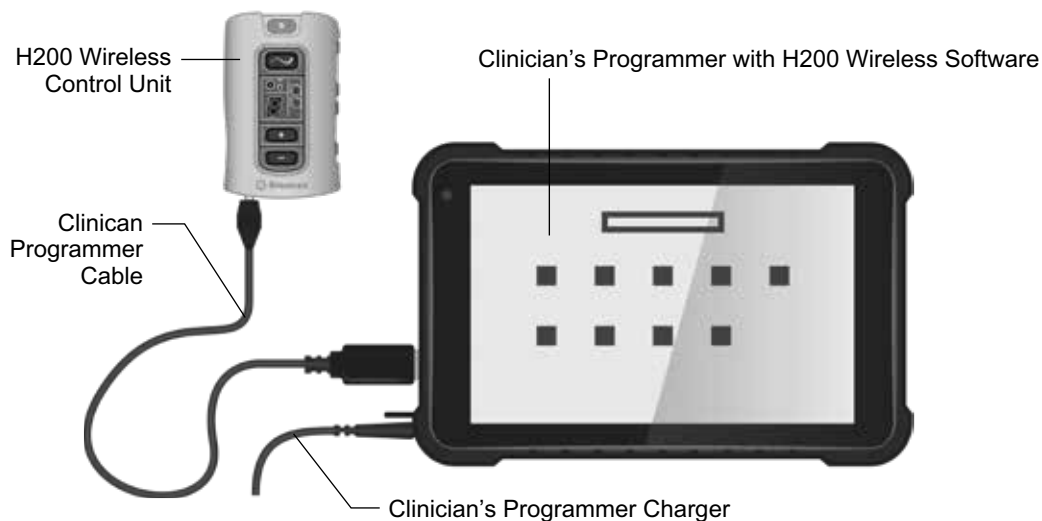

Figure 7-2: H200 Wireless Control Unit Connected to the Clinician's Programmer
2. Plug the Clinician Programmer Cable into the signal input/output port of the Control Unit. See Figure 7-2.